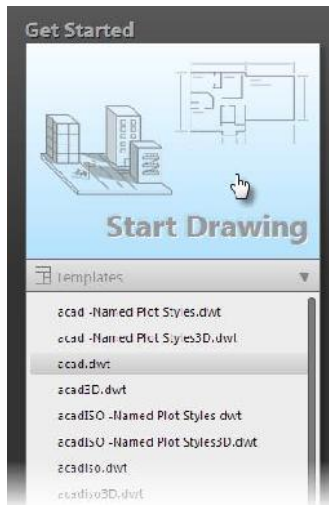

FIGURE 2.2: Choosing the `acad.dwt` template from the Get Started panel of the New Tab
2. Under the Start Drawing tool, click the disclosure triangle for Templates, and then select the `acad.dwt` file (`acad1t.dwt` for AutoCAD LT users) as shown in Figure 2.2.
3. With the correct drawing template selected, click the Start Drawing tool shown in Figure 2.2 to open a new blank drawing.